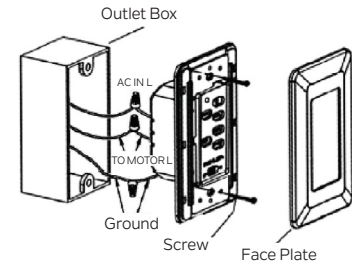

Fig. 20
Step 2. Install the wall control to the outlet box, connecting the wires with wire connectors provided. (Fig. 20)